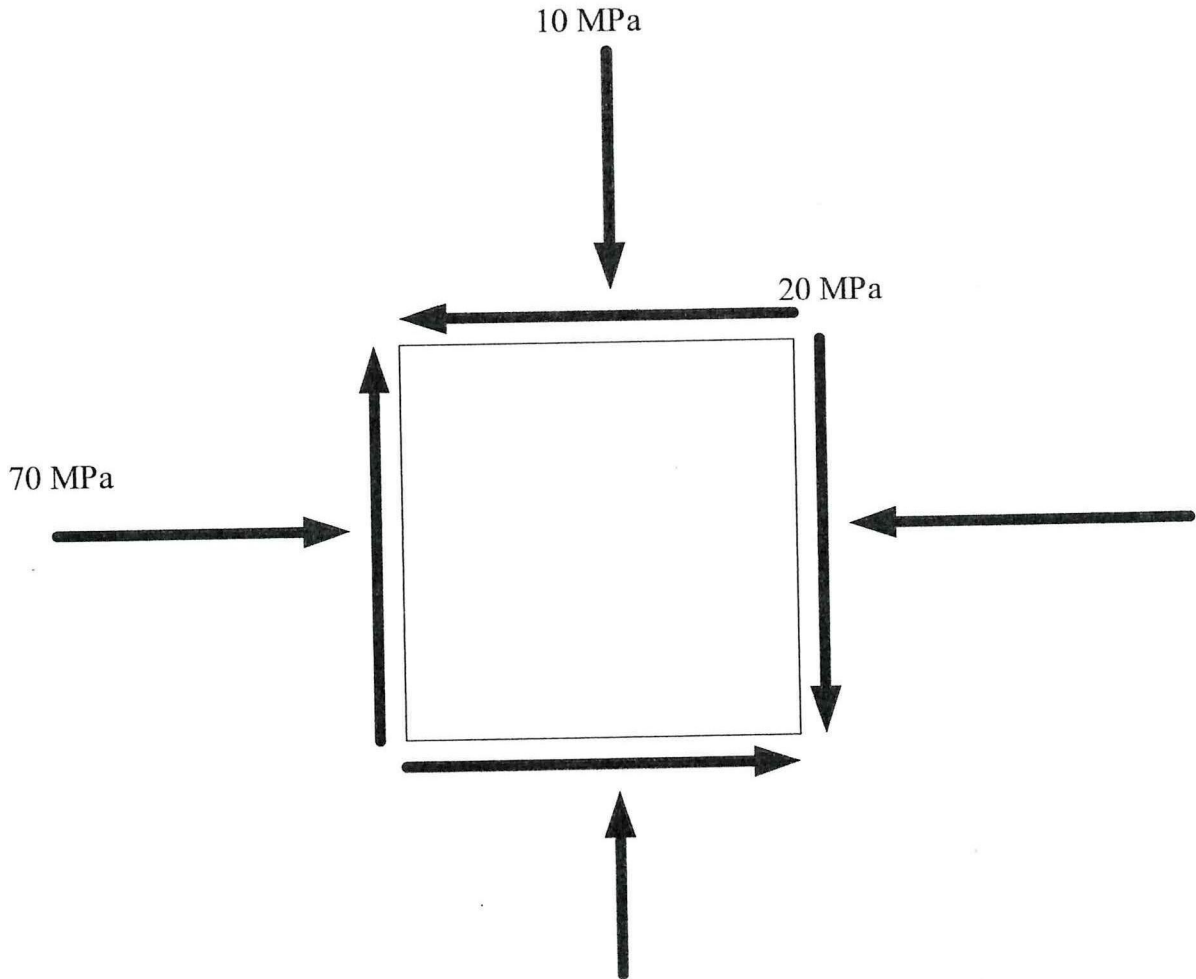

FIGURE Q1
- (b) **Figure Q1** shows a state of plane stress. Using Mohr's circle method, plot and determine the following items: